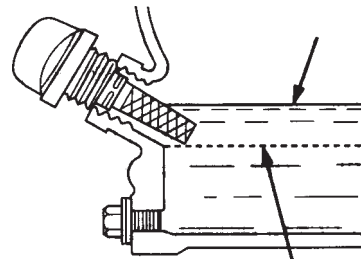

Figure 8. Engine Oil Dipstick (Oil Level)
4. If the oil level is low (Figure 8), fill to the edge of the oil filler hole with the recommended oil type (Table 7). Maximum oil capacity is 2.33 qts. (1.09 liters)